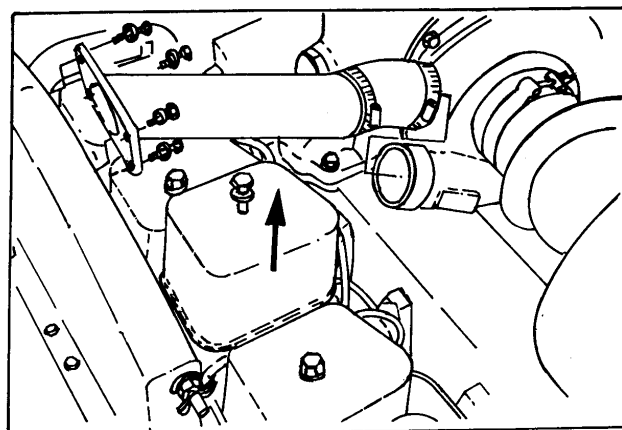

Fig. 5.24. Removal of Valve Covers.
2. Disconnect the turbocharger air inlet hose. Remove the valve covers (Fig. 5.24).